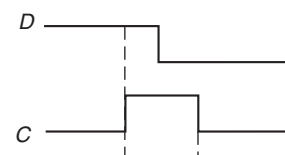

Fig. 12.69 For S 12.9 D Input and a Single Clock Pulse.
36. The D input and a single clock pulse are shown in Fig. 12.69. Compare the resulting Q outputs for positive edge-triggered, negative edge-triggered, pulse-triggered, and data lock-out flip-flops. The flip-flops are initially Reset.